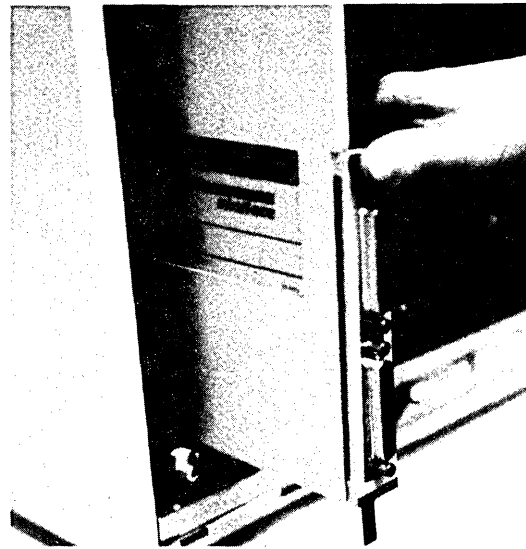

FIGURE 15
5. Hold the expansion card by the metal edge, with the green plastic facing right and the white cover facing left. Insert the bottom of the card into the connector slot and the top of the card into the plastic slot above the connector. Slide the card into the cage as far as it will go. (See Figure 15.)